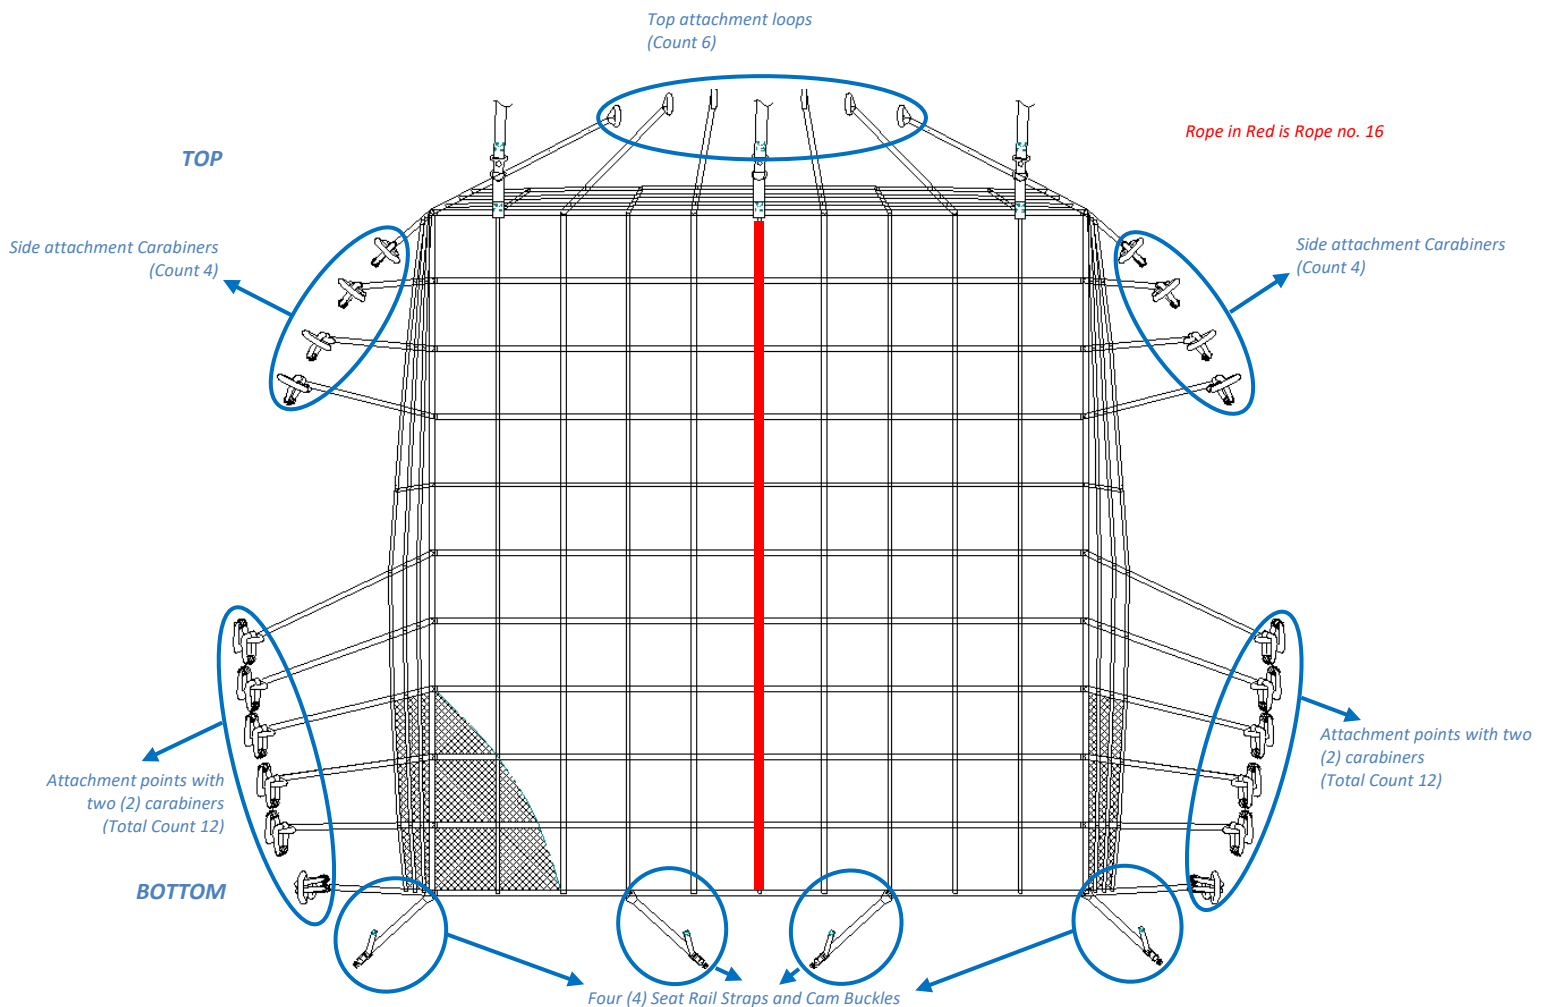

FIGURE 1
4. Add a second carabiner to lower six side attachment points, counting from the bottom, on each side (see Figure 1 for reference). Second carabiner is to be installed inverted from the first carabiner (See picture below). The two carabiners should have inverted gates but opened by pushing toward the pear ring.